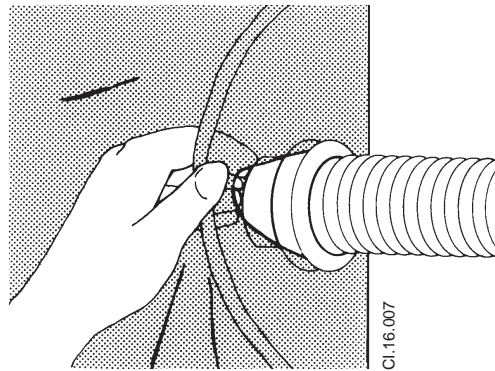

Figure 4
4. Insert the plastic duct hose into the small hole in the tent, with the edges of the hole fitting into the groove in the hose end (See Figure 4).